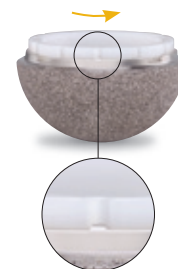

Figure 16
5. Gently introduce the polyethylene or ceramic insert making sure that the insert flange scallops are aligned with the slot at the rim of the shell (this allows seating the insert at the initial position supported by four indexing barbs). Once the insert is seated at the initial position, slowly turn and drop the insert into the final pre-locking position (Figure 16).